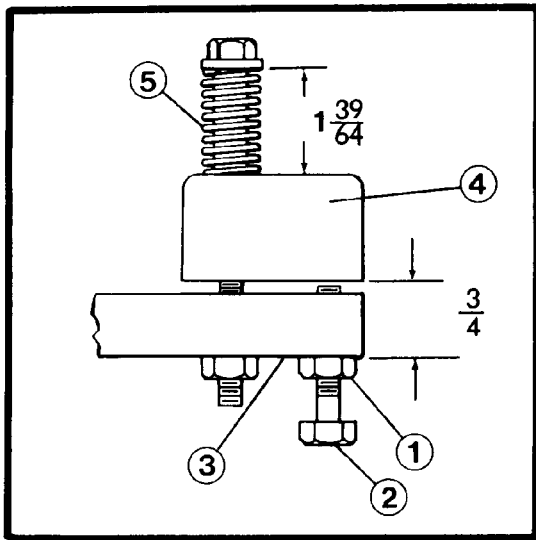
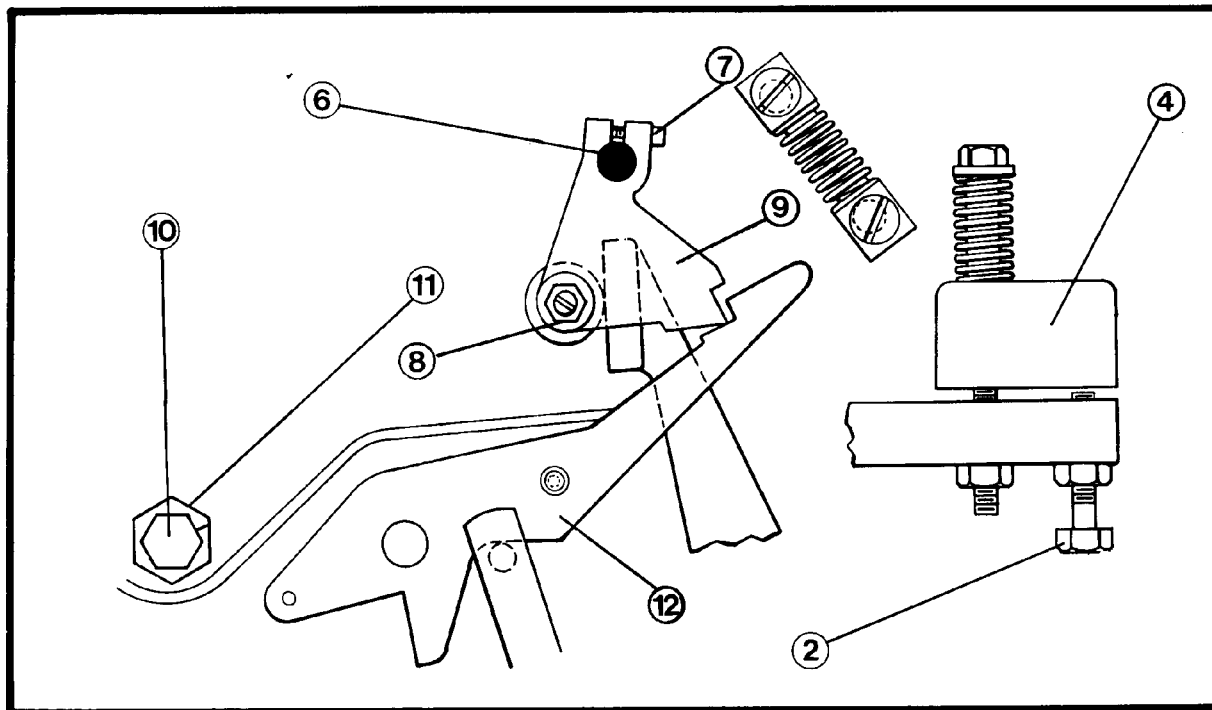

Figure 29 - Master Cylinder and Latch Lever
Figure 30 - Master Cylinder and Latch Lever
1. Loosen locknuts (1) on both sides of the machine (See Figure 29).
2. Preset screws (2) to position master cylinder support arms (3) for 3/4" between the underside of the stop blocks (4) to the machined side of support arms (3).
4. Adjust master cylinder support arm springs (5) to 1-39/64" using tool (P/N 191549).
5. Loosen set screws in collar on non-operator end of master cylinder shaft (6) and screw (7) and nut (8) on master cylinder lever (9) (See Figure 30).
6. Insert cylinder adjusting tool into operator end of master cylinder shaft (6). Draw cylinder toward the operator side by tightening knob on tool. Push the shaft to the non-operator side to eliminate end play. Hold shaft (6) in this position and locate collar and support arm link on non-operator side against side frame. Tighten collar set screws.
10. Turn the adjusting tool (P/N 191551) clockwise until both support arms barely move. Keeping the support arms separated, position the master cylinder lever so it will be latched by the latch lever. Tighten screw (7).